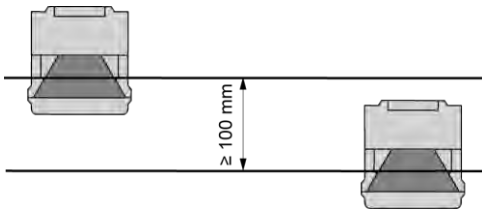

Figure 3-6. Height offset mounting and parallel alignment
- Install scanners at an off-set height of at least 100 mm (see Figure 3-6).